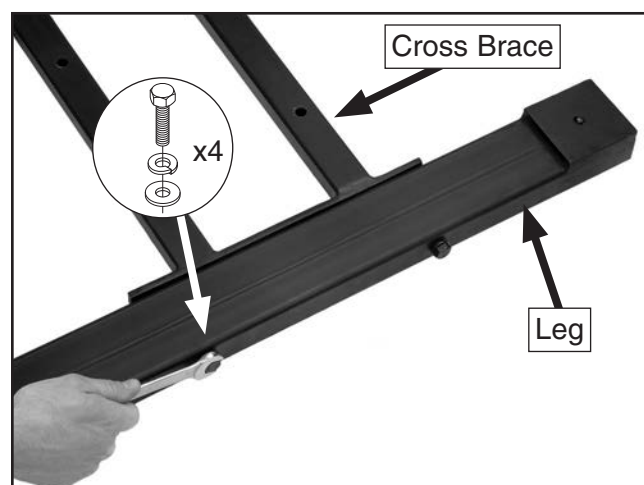

Figure 8. Fastening legs to cross brace.
3. Fasten the legs to the cross brace with four M10-1.5 x 100 hex bolts, 10mm lock washers, and 10mm flat washers, as shown in **Figure 8**.